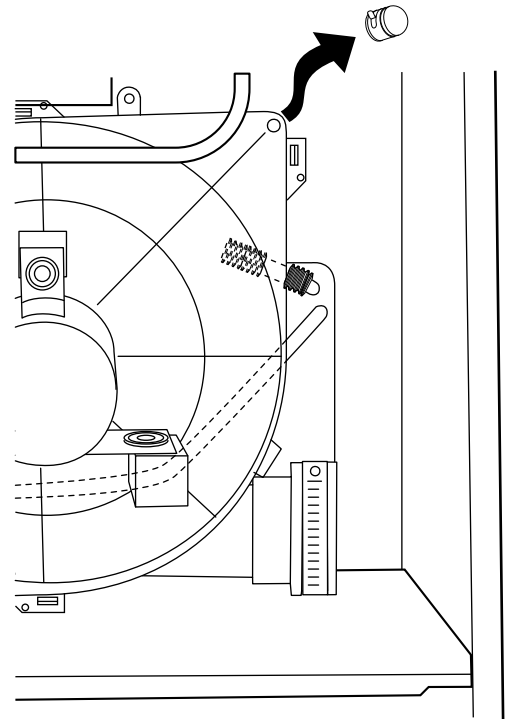

Fig. 42—Inducer Housing Drain Tube
1. Remove upper inducer housing drain connection cap. (See Fig. 42.)